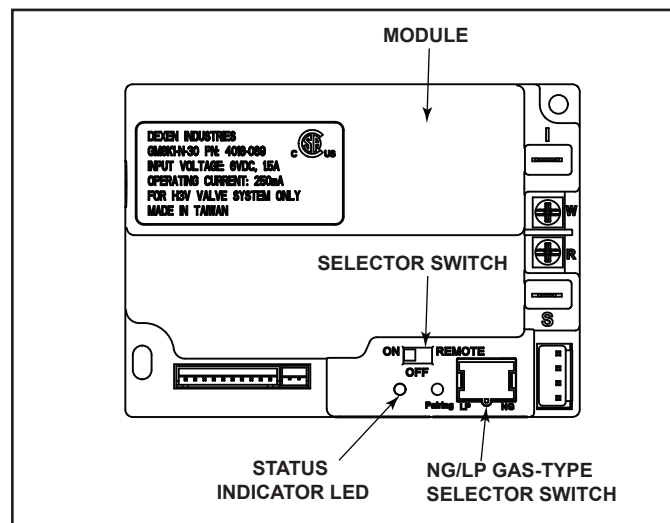

Figure 5.5 Control Module
1. The control module has an ON/OFF/REMOTE selector switch that must be set. See Figure 5.5.
- Locate the module selector switch. (See Figure 5.5).
- Wait five (5) minutes to allow possible accumulated gas to clear.